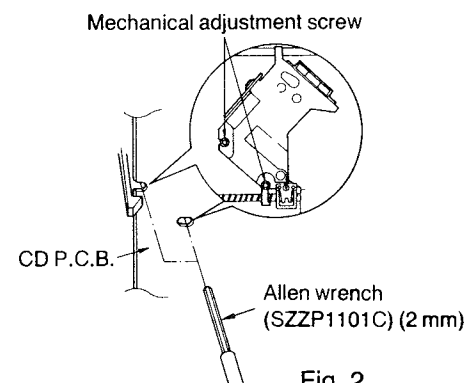

Fig. 2
4. Alternately adjust the two mechanical adjusting screws with the 2.0 mm allen wrench (SZZP1101C) until the RF signal amplitude variation on the oscilloscope is minimized. (Shown in Fig. 2)